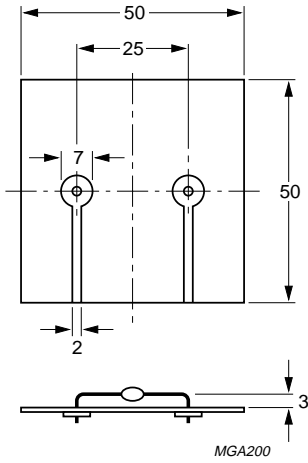

Fig.5 Leaded device mounted on printed-circuit board 50 × 50 mm.
Calculating this maximum power handling capability we have to take into account the maximum junction temperature of the particular device, the maximum temperature of the solder joints (110°C for long time reliability) and the ambient temperature. Dependent on the ratio of the component parts of the thermal resistance it is possible that the junction temperature or the temperature of the solder joints (T_{tp}) will be the limiting factor. This can be shown in the following examples for a SOD57 device mounted on an FR4 printed-circuit board, as shown in Fig.5.
4. Mounted as in Fig.5.